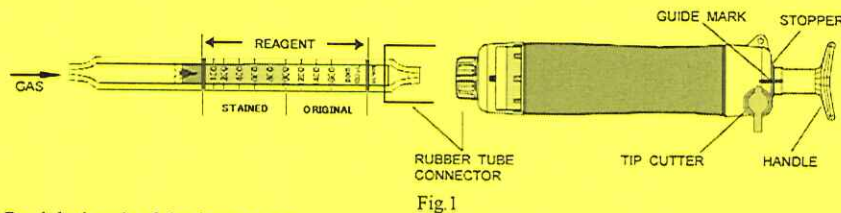

Fig.1
- ② Insert the detector tube into the aspirating pump securely as shown in Fig.1. (Arrow mark shall point to the pump.)
- ③ Align the guide marks on the shaft and stopper of the aspirating pump.
- ④ Pull the pump handle at a full stroke until it locks and wait for 1 minute or until the completion of sampling is confirmed with the flow indicator of the pump (See descriptions about the flow indicator in the instruction